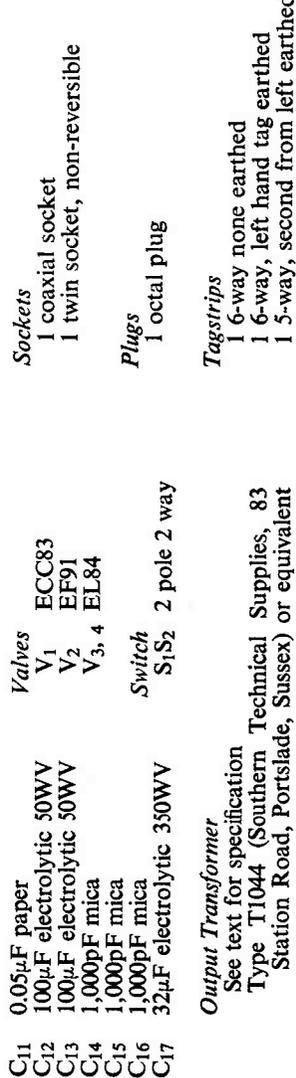

Fig. 2. Theoretical circuit of the amplifier
available power is inadequate for sudden peaks. Here an output in the region of 10 watts is aimed at, and makes necessary a push-pull output stage which is operated under ultra linear conditions. The theoretical circuit diagram is given in Fig. 2. The screen taps for the output valves are made at 43% points in the primary winding and a means of current balancing is provided. Four valves are used and comprise: EL84 (2), EF91(1), ECC83 (1).